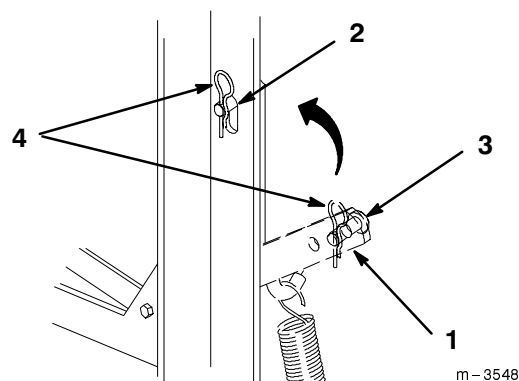

Figure 39
2. Remove hairpin cotter and clevis pin from idler arm (Fig. 39).
3. Push up on the spring loaded idler arm, behind blower on lefthand side of unit, to relax pressure on blower belt (Fig. 39).